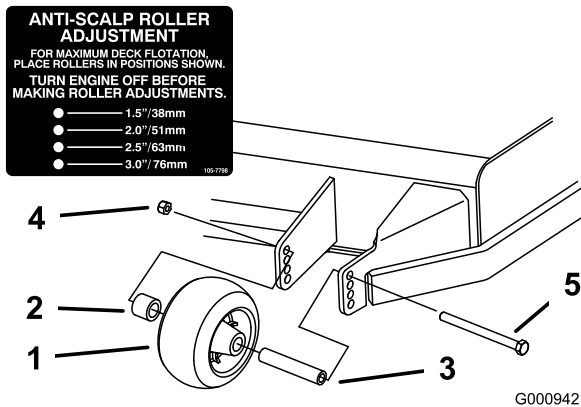
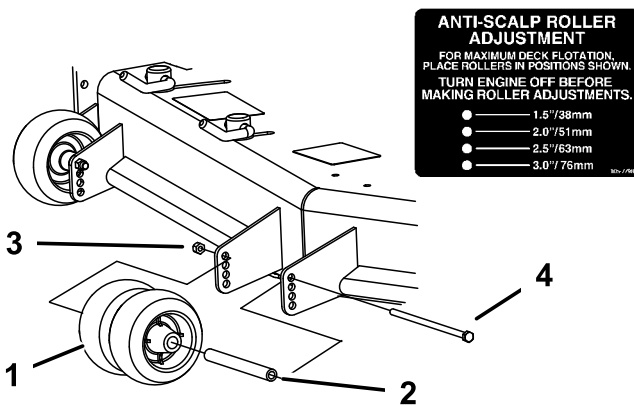
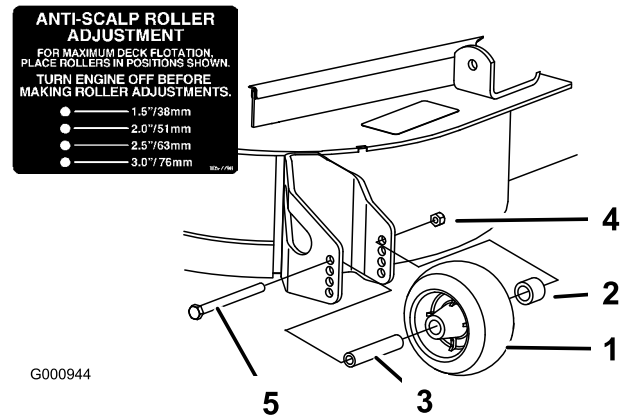

Figure 19
Figure 20
Figure 21
3. After adjusting the height-of-cut, adjust the rollers by removing the flange nut, bushing, spacer, and bolt (Figure 19 , Figure 20 and Figure 21).
Note: The two middle rollers will not have a spacer (Figure 20).
5. Install the flange nut bushing, spacer, and bolt. Torque to 40-45 ft-lb (54-61 N-m) (Figure 19 , Figure 20 and Figure 21).